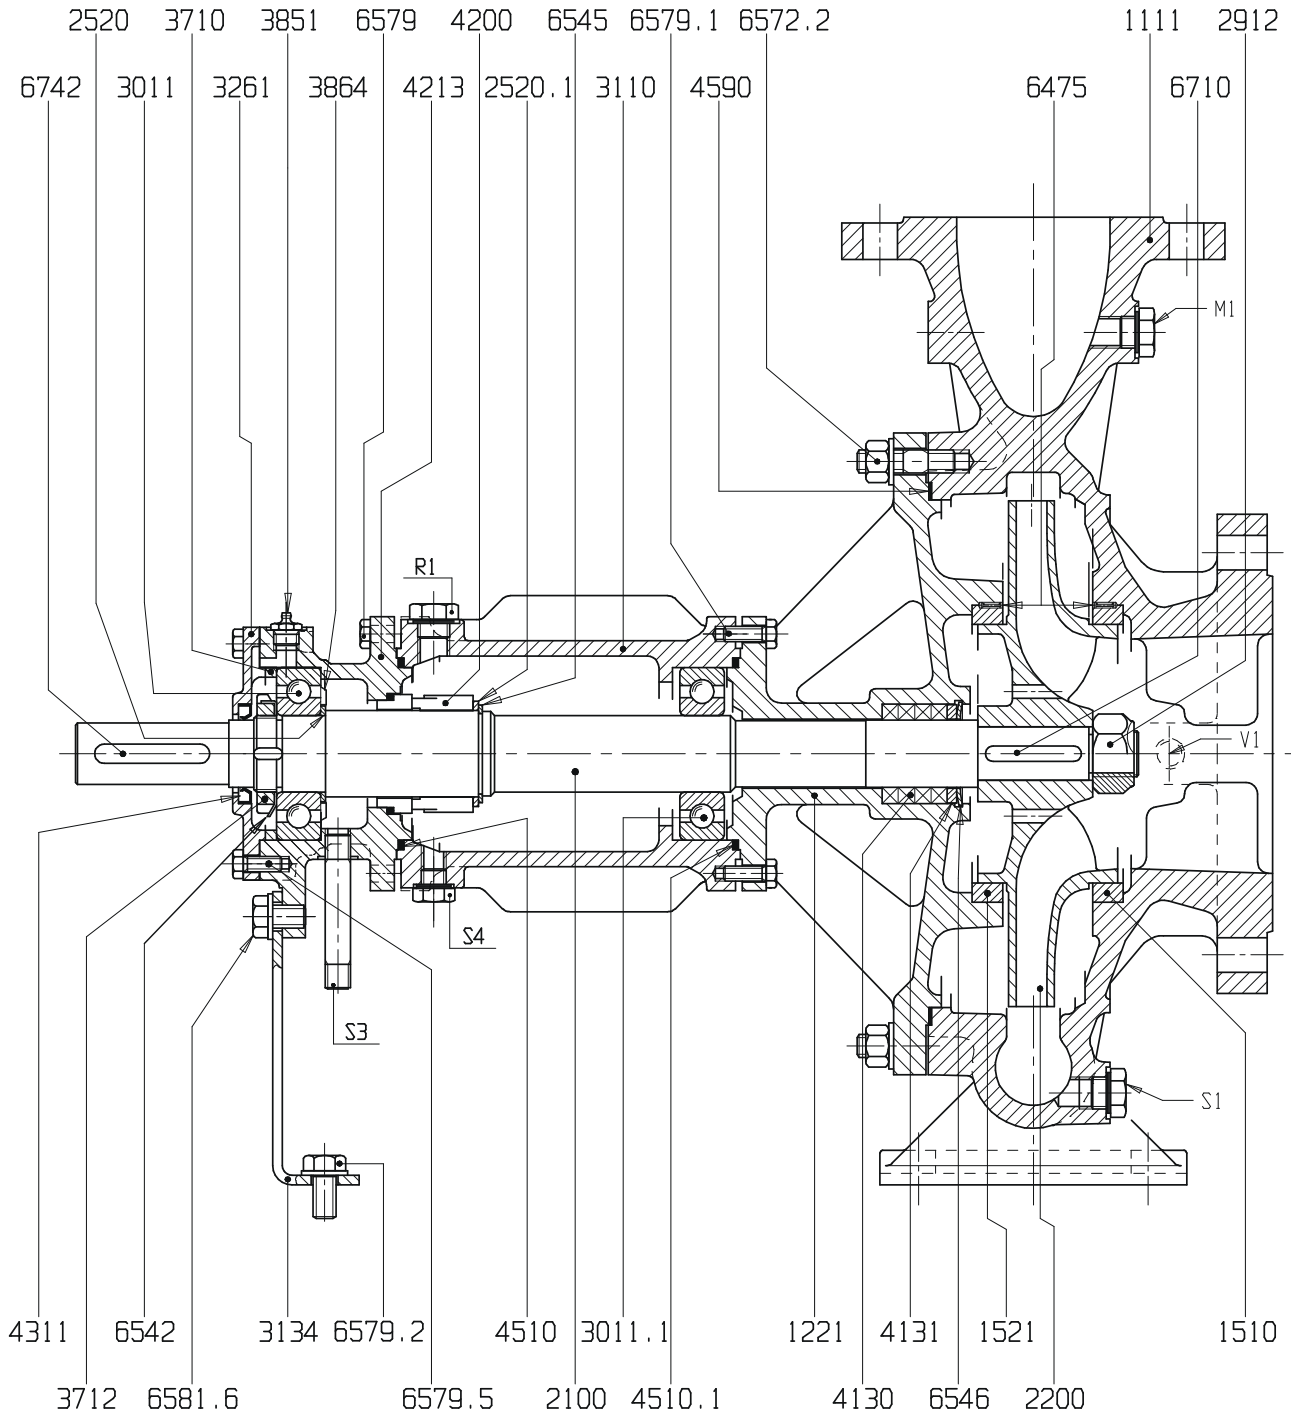

fig. 6
Before carrying out the aligning operations, loosen and tighten again the screws of the support foot 6581.6 (fig. 6).
### 6.2.1 Coupling side bearing (pos. 3011 - fig.6)
### 6.2.2 Pump side bearing (pos.3011.1 - fig.6)
**6.5 DISASSEMBLY (REF. FIG. 6)**